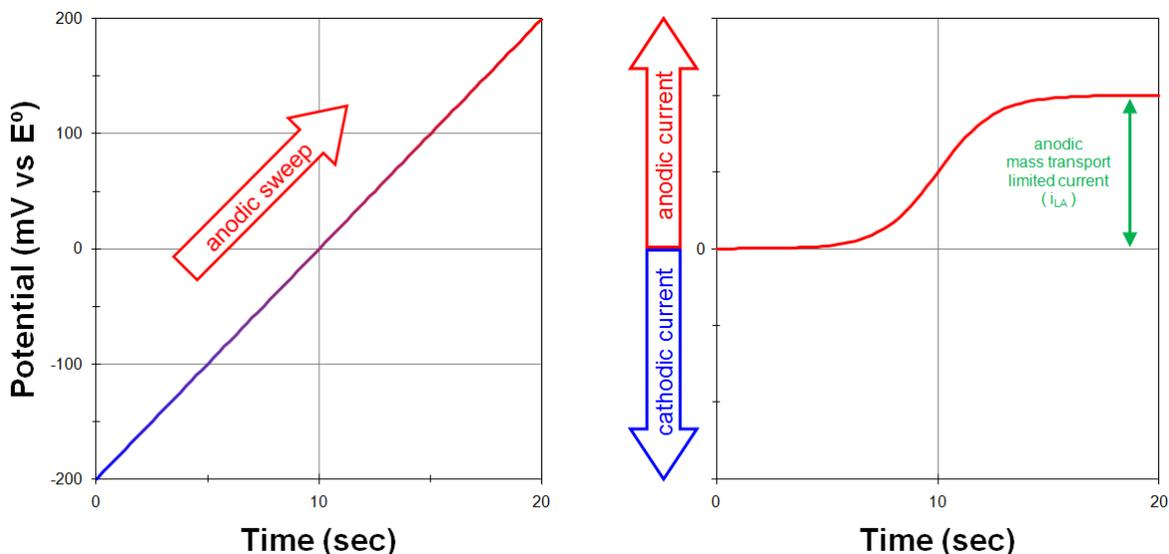

Figure 10.2: Response to a Potential Sweep (Anodic) from a Solution Initially Containing only the Reduced Form (R) with no Oxidized Form (O)
Next, the electrode potential is slowly swept in the positive (anodic) direction (see Figure 10.2, left) and an anodic current is observed (see Figure 10.2, right). The anodic current eventually reaches a maximum value when the potential is sufficiently positive relative to the standard electrode potential. At this point, any of the reduced form (R) that reaches the electrode surface is immediately converted to the oxidized form (O).